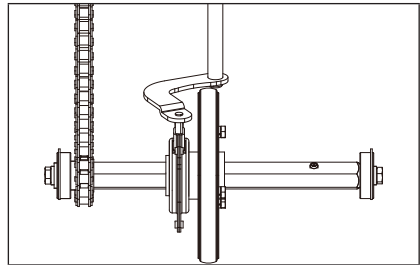

Figure 71
8. Clean the aluminum friction disc by wiping down with a clean cloth and follow the previous steps in reverse order to reassemble hexagon shaft parts. Make sure the parts are aligned as shown when finally assembled. (Fig. 71)